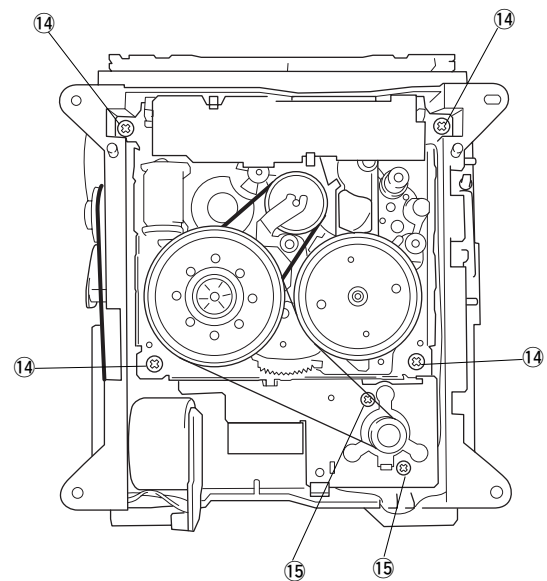

Fig. 13
Remove 4 screws (14) and then pull out the Cassette Mechanism in Fig. 13.
Remove 2 screws (15) in Fig. 13.